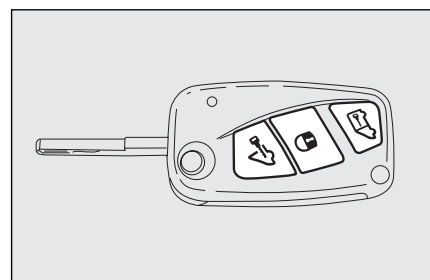
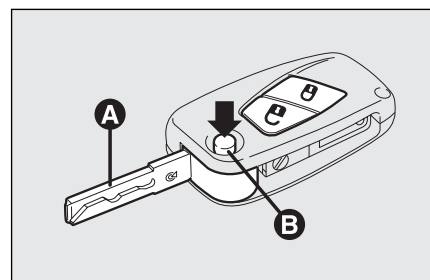
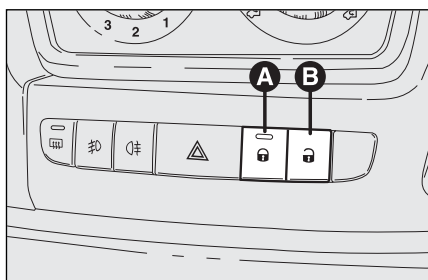

fig. 87
fig. 88
fig. 90
With the doors closed, press the button  on the remote control **fig. 87** or fit and turn clockwise the metal insert into the driver's door lock.
Door locking is only possible if all the doors are closed. Opening one or more doors by pressing the button  on the remote control **fig. 87**, will make the direction indicators and the button led **A-fig. 90** flash quickly for about 3 seconds.
With this function active, buttons **A** and **B fig. 90** are disabled.
Pressing twice briefly the button  on the remote control **fig. 87** will engage the dead lock device (see paragraph "Dead lock device").
Briefly press button  **fig. 87** or  **fig. 88**, according to versions, to obtain remote door unlocking, timed ceiling light turning on, directions indicator double
Press button **A-fig. 90** to lock and press button **B** to unlock the doors. When doors are locked the button led **A** is on and pressing the button **B** will obtain central unlocking of the doors and turning off of the led. When doors are unlocked, the button led is off and pressing the button will obtain central locking of the doors. Door locking is activated only if all the doors are perfectly closed.
it will not be possible to unlock the doors by pressing button **A-fig. 90**.
- ☐ locking/unlocking buttons **A-B fig. 90**;
The dead lock device is automatically activated on every door when pressing twice briefly the remote control button , **fig. 87**.
Device activation is indicated by 3 flashing of direction indicators and flashing of the button led **A-fig. 90**.